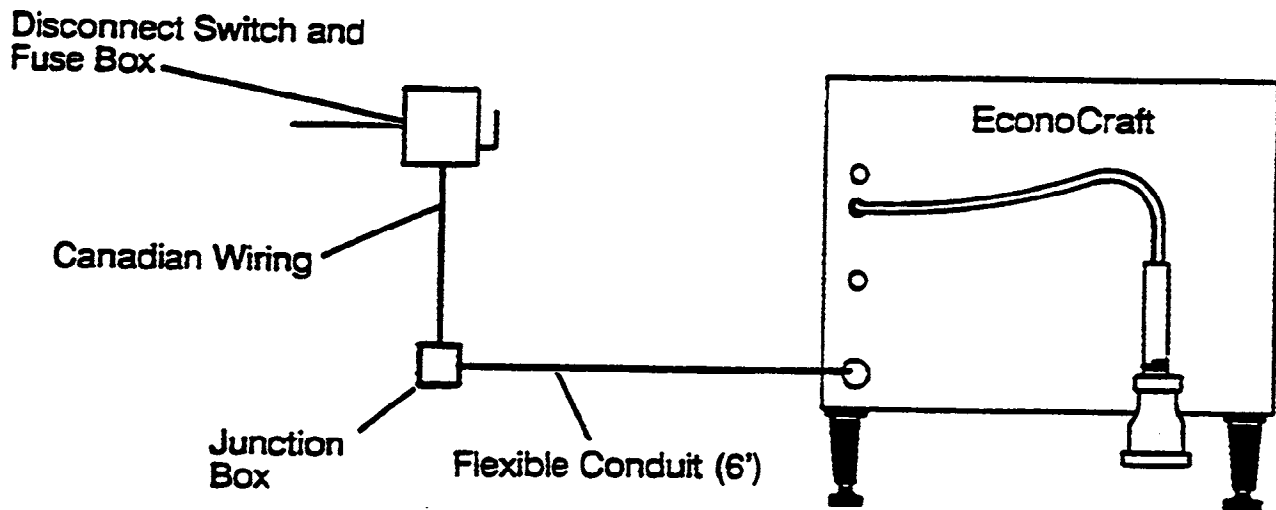

Figure 2-11. Canadian Connection Diagram
- Connect the wires from the EconoCraft flexible cable to those in the junction box according to Figure 2-11.